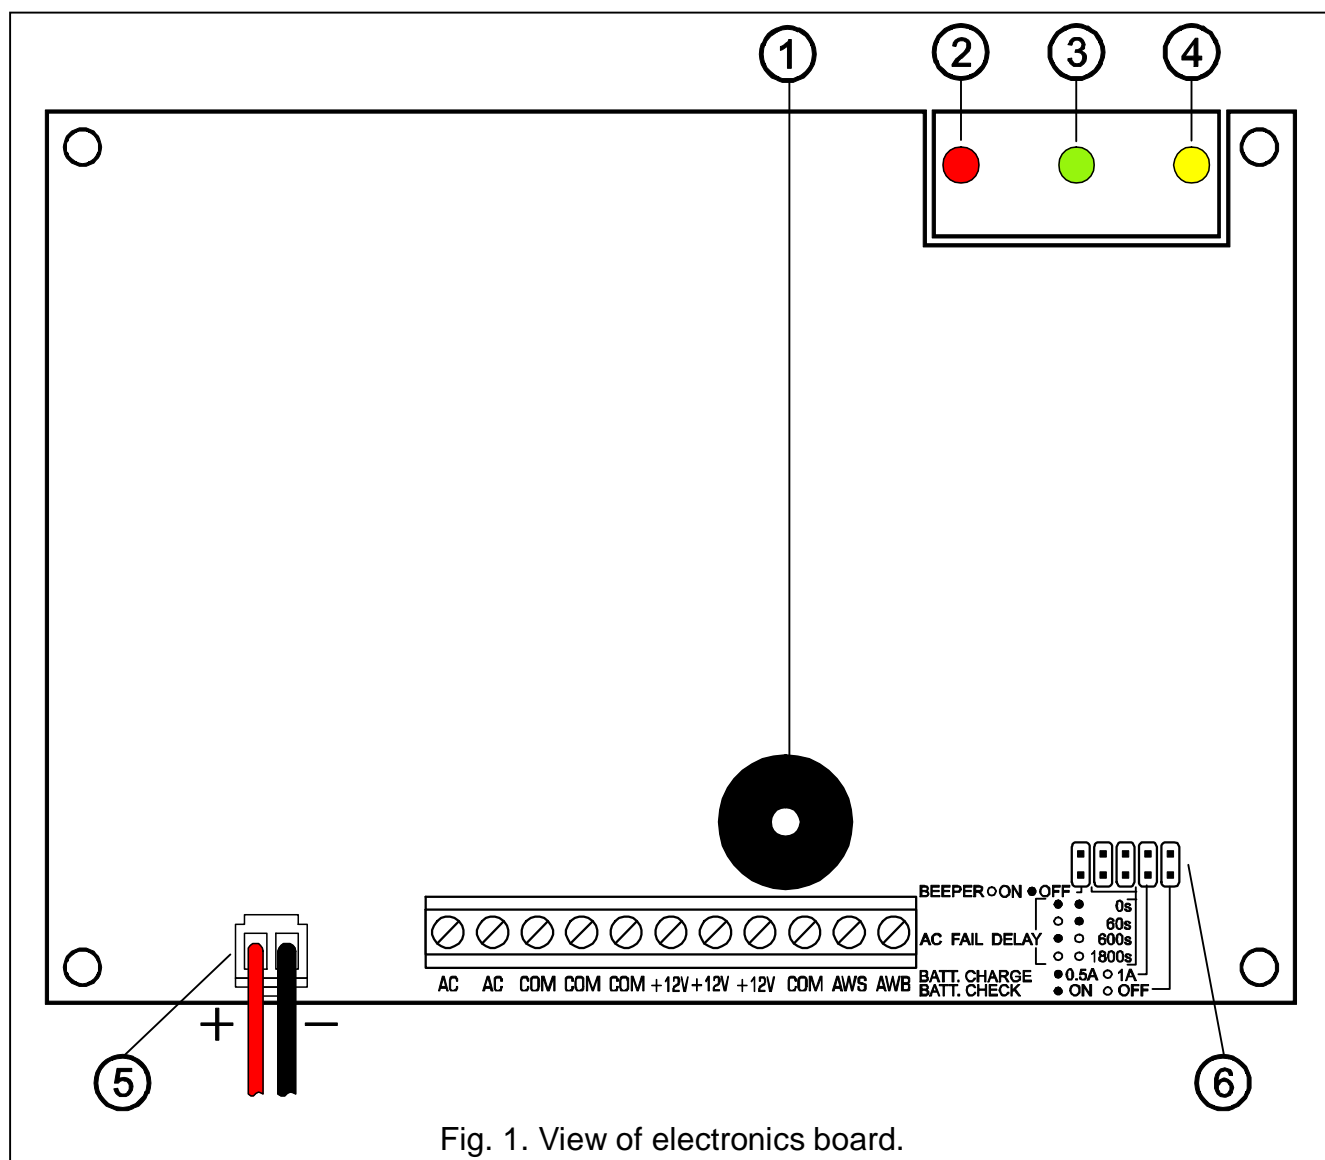

Fig. 1. View of electronics board.
Legend to Fig. 1:
4. Mount the board with electronics on the distance plugs, and, using screws, secure the board with LEDs to the housing cover (descriptions of LED indicators - see Legend to Fig. 1).